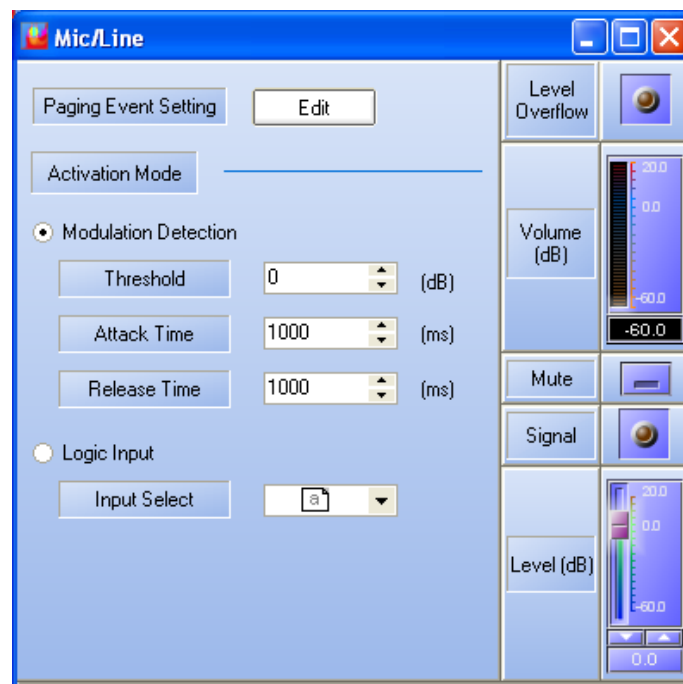

Figure 31: MIC/LINE window
- Double click on the microphone icon. The “MIC/LINE” window will open (Figure 31).